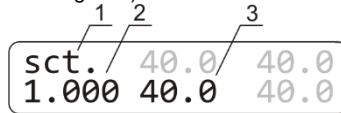

Figure 4. Display in calibration mode: 1. Calibration mode indicator; 2. Calibration coefficient; 3. Temperature with current coefficient
- 6.2. To change the calibration coefficient, hold the **▶/■ RUN/STOP** key pressed for more than 8 s to activate calibration mode, as shown on figure 4).
Note. Values marked in grey on figures 4 and 5 are not used in calibration and are meant for service engineers.
- 6.3. **Restoring factory settings.** Set 1.000 value using the **▲** and **▼ T, °C** keys as shown on fig. 4/1 to restore the factory settings. Press the **▶/■ RUN/STOP** key once to save the changes and exit the calibration mode.
- 6.4.5. Hold the **▶/■ RUN/STOP** key pressed for more than 8 s to activate calibration mode (figure 4).